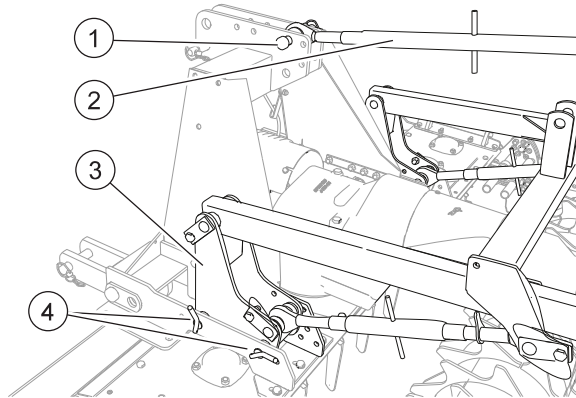

FIG. 16
- Place the hitch onto the machine: insert the lower hitches (3, "Fig. 16") onto the plates at the basis of the three point hitch frame.
- Fasten the lower hitches with the pins (4).
- Connect the tie rod (2) to the machine three-point hitch.
- Fasten the tie-rod with the pin (1).